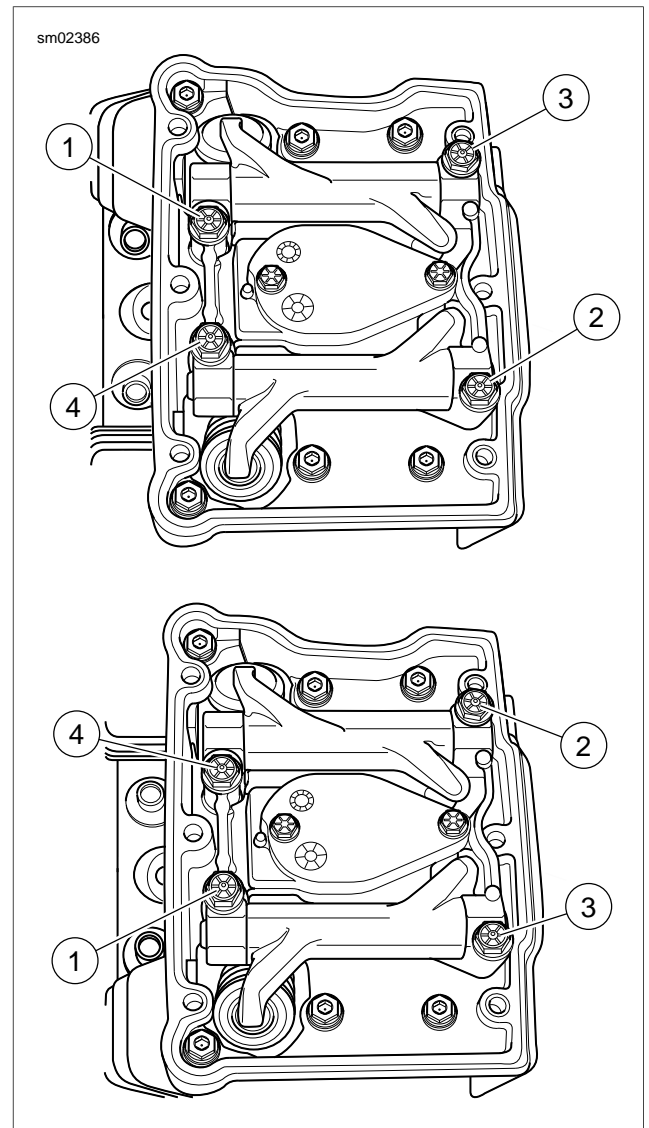

Figure 3-20. 1/4 Turn Rocker Arm Bolts in Sequence
4. See Figure 3-20. Remove two bolts to release breather assembly and filter element from the rocker arm support plate. For inspection and repair information, see 3.19 BREATHER ASSEMBLY.
- See Figure 3-20. Alternately loosen each of the four rocker arm support plate bolts just 1/4 turn in the pattern shown the figure. Continue turning the bolts in these increments